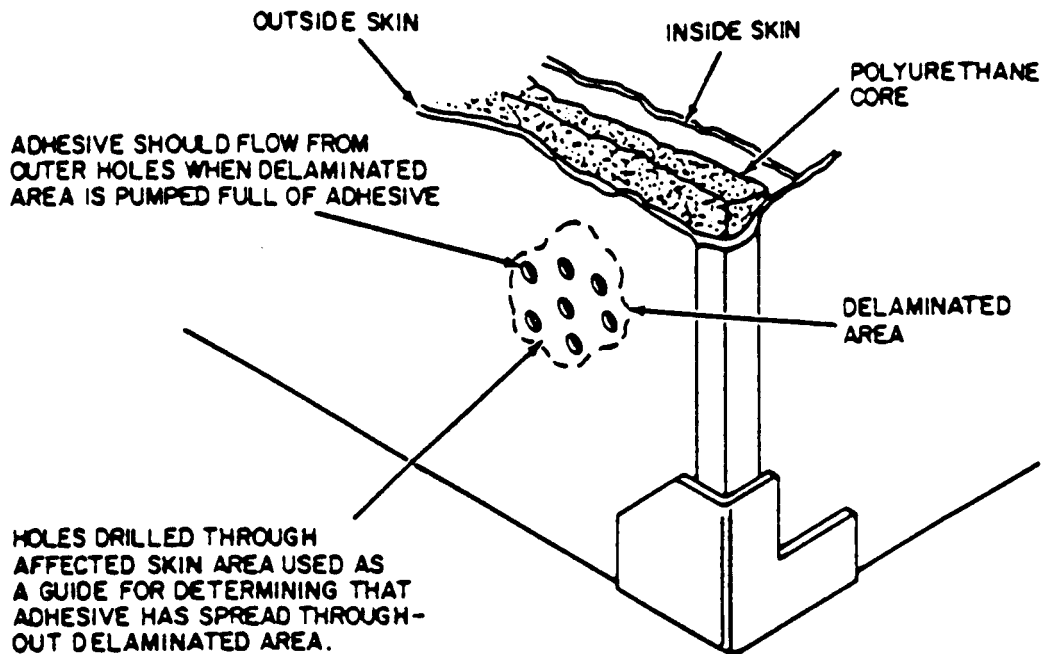

Figure 4-1. Skin Panel Delamination Repair.
b. Repair. (Figure 4-1)
(1) Mark off the limits of delaminated area.
(2) Using Figure 4-1 as a visual guide, drill a 3/16 inch diameter hole in approximate center of delaminated area of affected panel only. This hole will be used to pump epoxy adhesive into delaminated area.